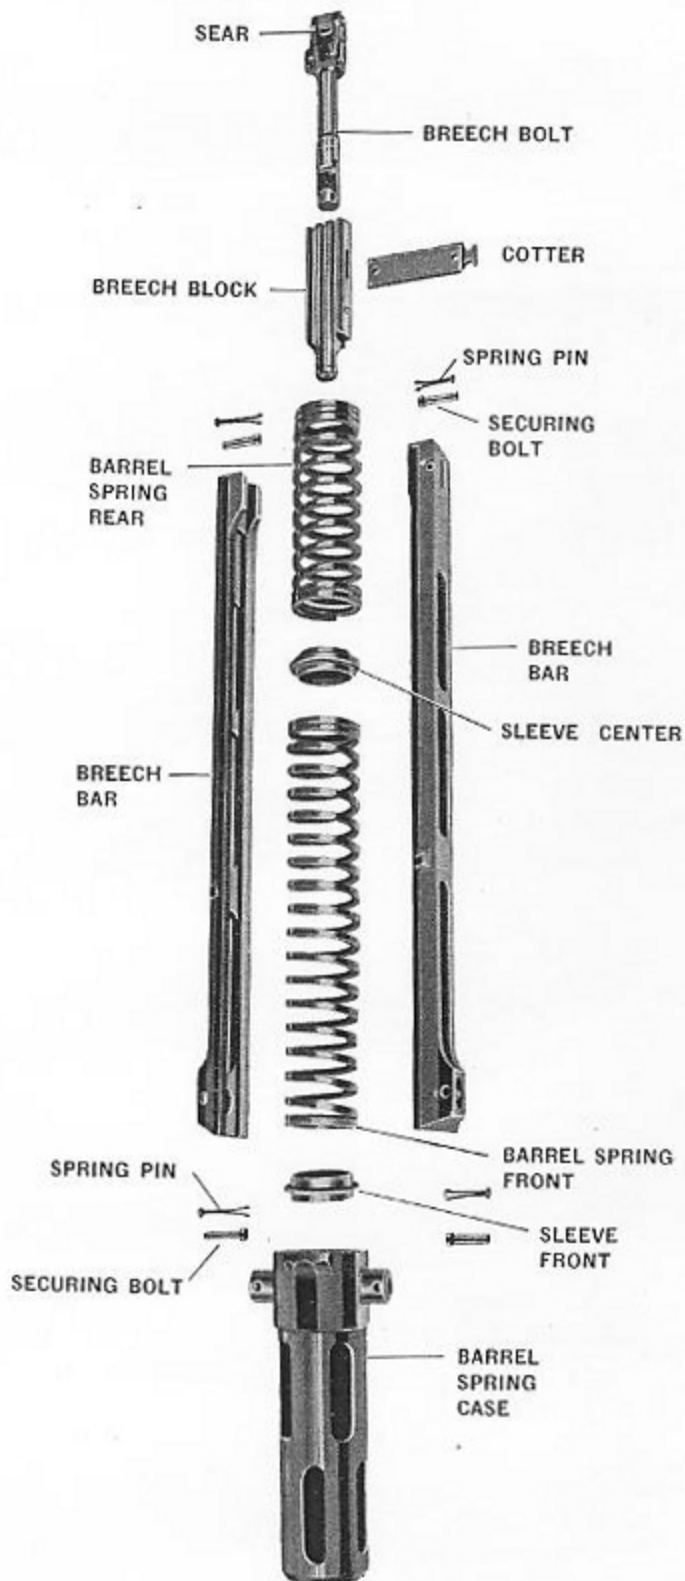

Figure 2—Recoiling Parts
The major difference between this gun and others is that the force of the explosion is absorbed in checking and reversing the forward movement of a relatively heavy bolt, or breech block, that is never locked. In most guns the force of the explosion is taken by the locked breech block and by the recoil cylinders and mechanism. See Figure 2.
- (A). The breech casing and barrel do not recoil.
- (B). The recoiling parts are the breech block and the parts that connect it to a powerful two-piece barrel spring. See Figure 2. The breech block recoils and counterrecoils with a purely reciprocating action.
- (C). The barrel spring is the only force tending to keep the breech block closed. There is no positive lock.